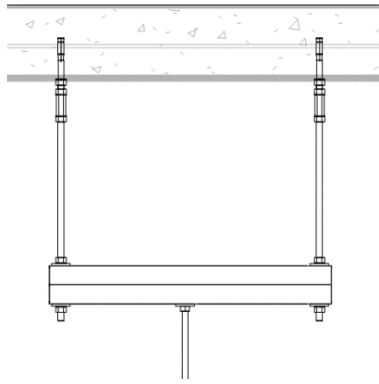

Figure 249: **A Trapeze Created to Avoid an Above Ceiling Conflict**
- If mechanical, electrical or plumbing equipment cannot be avoided, a "bridge" or "trapeze" (Figure 249) may be necessary. Refer to the strut channel manufacturer's specifications to determine the type and size of strut channel required to meet load capacity and span conditions.